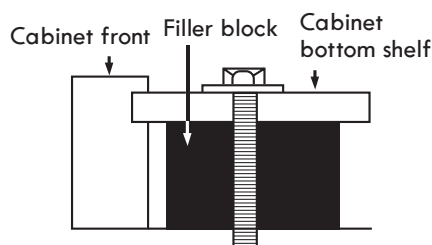

Figure 26
**NOTE:** If the bottom of the upper cabinet is recessed 3/4" or more, you will need 2"x2" filler blocks (not included) to provide additional support for the bolts. See Figure 26.